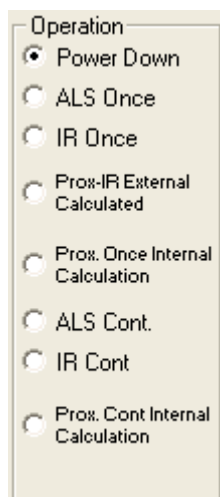

FIGURE 11.
- From the menu on the left, choose the specific “Operation” in which you would like to operate the IC, as shown in Figure 11. A detailed explanation is described in the data sheet (FN6691). Table 1 summarizes the different modes.